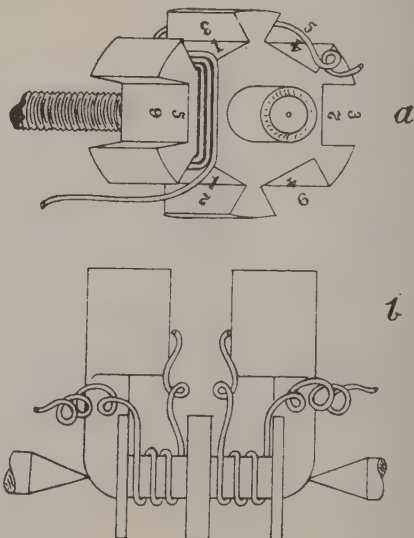

FIG. 3.
be found equal to any on the market. It is shown in section at Fig. 3. The back (1) and the front (3) may be turned up out of ebonite or hard wood as thought best.
If the amateur finds any difficulty in making the screwed part, he might leave it plain and fastened on the front (3, Fig 3) with brass screws. The recess in which the carbon block *b* rests is lined with stout tinfoil, which makes contact with the carbon block. The object of the
V-shaped face is to prevent the carbon granules, with which the space is filled, from clogging. The coarse silk network in the middle serves the same purpose; both, however, may be left out, the carbon face being left plain, with very little alteration in the results. A ring of cotton wool (6, Fig. 3) serves to keep the granules in their place, and also prevent overtones, due to excessive vibration of the thin carbon diaphragm (5, Fig. 3), which covers the whole. Contact with the diaphragm is made by means of the thin brass ring 7, a ring of soft blotting-paper on the other side serving to bed the front 3 to the same.
If the transmitter is so mounted that it can be turned round through 180 degs., then, by turning it from time to time, the settling down of the granules will be prevented, and the efficiency of the instrument will, therefore, not be affected. The connection can be made by means of flexible wire, so that the turning of the instrument will not affect it. One contact is taken off the tinfoil which connects the carbon block, the other connection being made to the carbon diaphragm by means of the metal ring 7 (Fig. 3).
Having dressed the armature, mount it between centres (or hold it by hand if more convenient) and start the winding as shown in *a* (Fig. 3), putting on three layers of No. 24 wire, each layer consisting of twelve turns. Now refer to the winding diagram (*a*) where the slots are so figured as to show where each succeeding section must be wound by turning the armature until the number of that section is in an upright position. Each section is wound in precisely the same manner and direction, so that when completed, the slots will have six layers of wire in each. In connecting up join the starting end of each section to the finishing end of the next adjacent to it all the way round, and carry each junction so made down to one commutator segment; the slits in the commutator should correspond with the teeth of the armature core, and enough length of wire allowed in the armature connection for slight adjustment of the position of the commutator. To distinguish easily between starting and finishing ends it is as well, when commencing to wind each section, to make a "kink" in the starting end; this will avoid any doubt in connecting up. When the winding is done, the armature should be well served with shellac varnish, and put in a warm place to dry.
The field magnet coils consist of thirteen turns of No. 20 wire, in nine layers, wound on each side of the centre flange of the yoke, and this part of the work presents no special difficulty. Fig. 3 *b* shows method of starting the winding. Having mounted the carcass between lathe centres after insulating the wire spaces, one half is wound, and when full the motor is turned round, and the winding duplicated in the empty section similar in every respect.